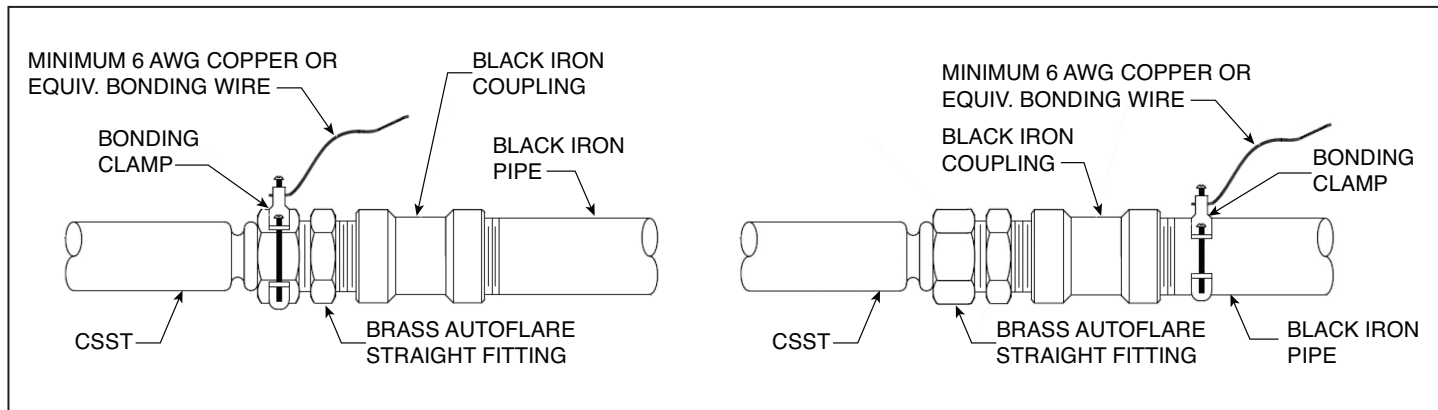

Figure: 4-61
1. For bonding of the TracPipe system, a bonding clamp must be attached to the brass AutoFlare/AutoSnap fitting adapter (adjacent to the pipe thread area - See Figure 4-61) or to a black or copper pipe component (pipe or fitting) located in the same electrically continuous gas piping system. The corrugated stainless-steel portion of the gas piping system SHALL NOT be used as the bonding attachment point **under any circumstances**. The bonding conductor shall be at least #6 AWG copper or equivalent and connected to the grounding electrode system per the Canadian Electrical Code (C22.1) or the locally adopted electrical code.